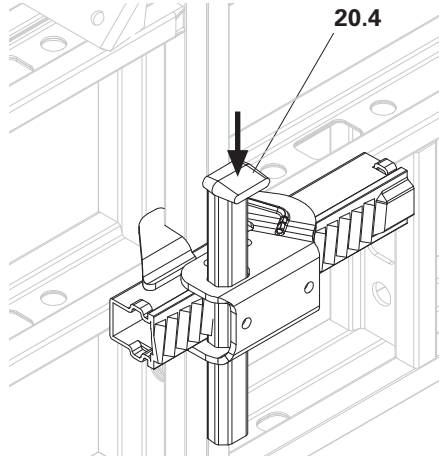

Fig. A4.03
3. Attach Alignment Coupler (20) to panel strut (10.2).
5. Secure wedge. (Fig. A4.03) The Alignment Coupler is now securely in position.